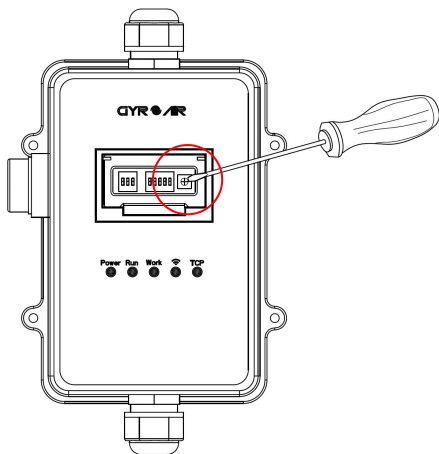

Fig 9
1) After pairing successfully, start the dust source equipment, and rotate the adjusting knob clockwise with a flat screwdriver , as shown in Fig 9;